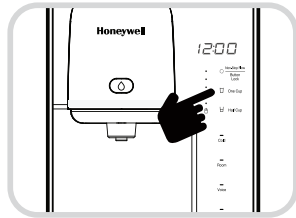
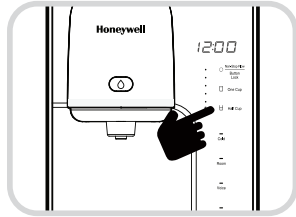

Fig. 5
Fig. 6
- Set the desired amount of out flow by pressing the One Cup or Half Cup. (Fig. 5) (Fig. 6).